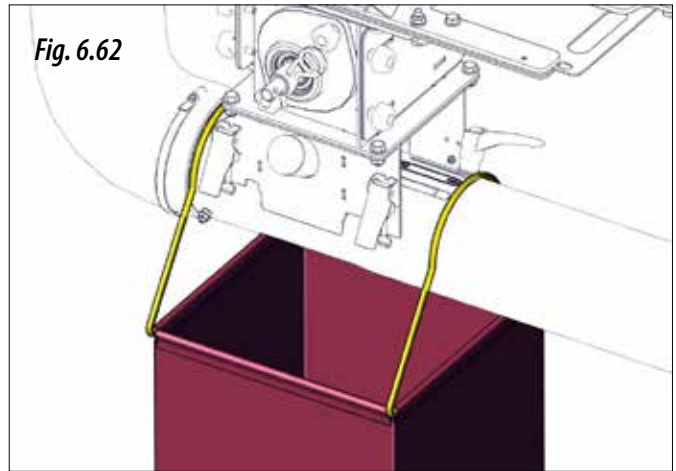

Fig. 6.62
- 5- Place the bag supplied or a container under the Venturi injector outlet (Fig. 6.62)